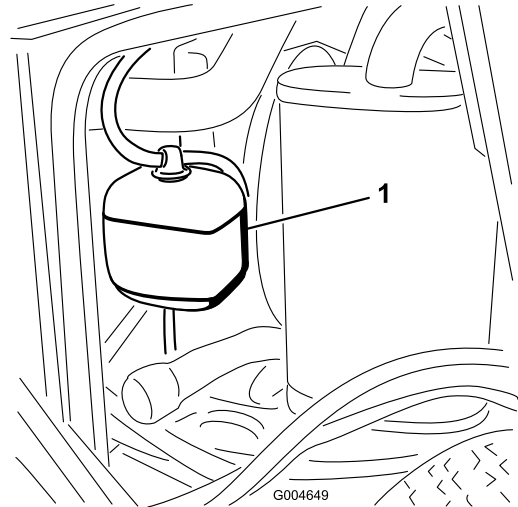

Figure 65
1. Check the level of the coolant in the expansion tank (Figure 65). The coolant level should be between the marks on the side of the tank.